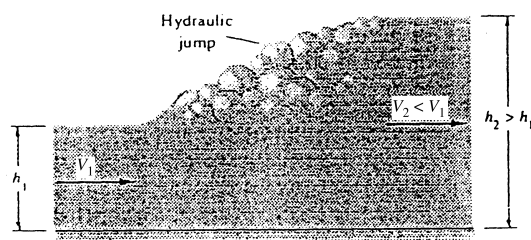

Fig. P3.102
3.102 As can often be seen in a kitchen sink when the faucet is running, a high-speed channel flow (V_1, h_1) may “jump” to a low-speed, low-energy condition (V_2, h_2) as in Fig. P3.102. The pressure at sections 1 and 2 is approximately hydrostatic, and wall friction is negligible. Use the continuity and momentum relations to find h_2 and V_2 in terms of (h_1, V_1).